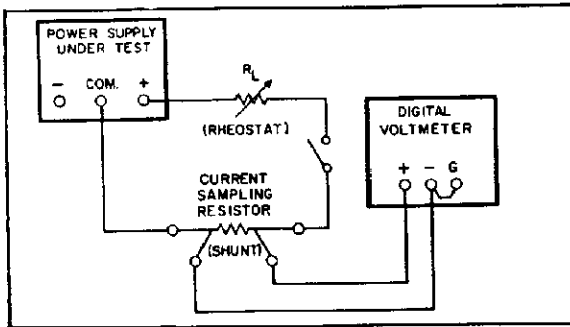

Figure 5-3: Output Current, Test Setup
g. Connect the test setup shown in Figure 5-3 to the +6V (or +18V) output. Make the total resistance of  $R_L$  and the current sampling resistor 2.4 ohms for the Model 6236B (or 18 ohms for the 6237B) to permit operating the output at full load.  $R_L$  should have a power rating of at least 20 watts.
k. Check the rated output and ammeter accuracy of the +20V and -20V supplies similarly by connecting the test setup of Figure 5-3 to each output in turn. For each 20V supply: make the total resistance of  $R_L$  and the current sampling resistor 40 ohms, set the  $\pm 20V$  VOLTAGE control for a current indication on the DVM of 0.5A, check that
m. Connect the test setup shown in Figure 5-3 to the +20-volt output. Substitute a short for  $R_L$  and leave the load circuit switch open.
r. (Steps (r) through (t) apply to the 6236B only.) Connect the test setup shown in Figure 5-3 to the +6V output. Close the switch, set the total resistance of  $R_L$  and the current sampling resistor to an initial value of 2.4 ohms or greater, and set the output voltage to 6 volts.